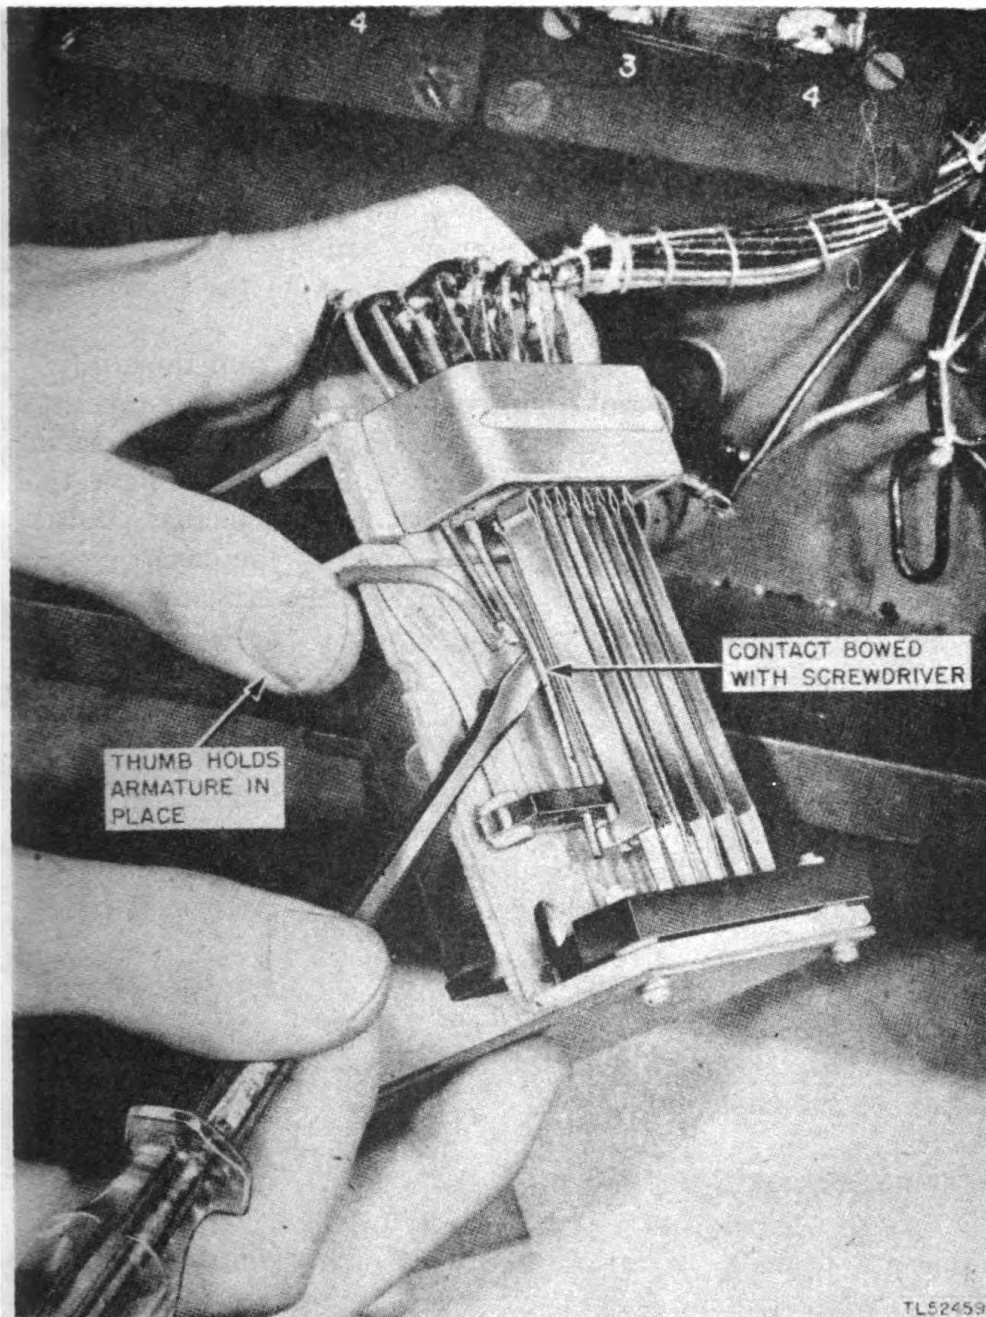

Figure 20. Adjusting line connector relay.
(4) *Adjust.* Adjust the contacts as follows (fig. 20) :